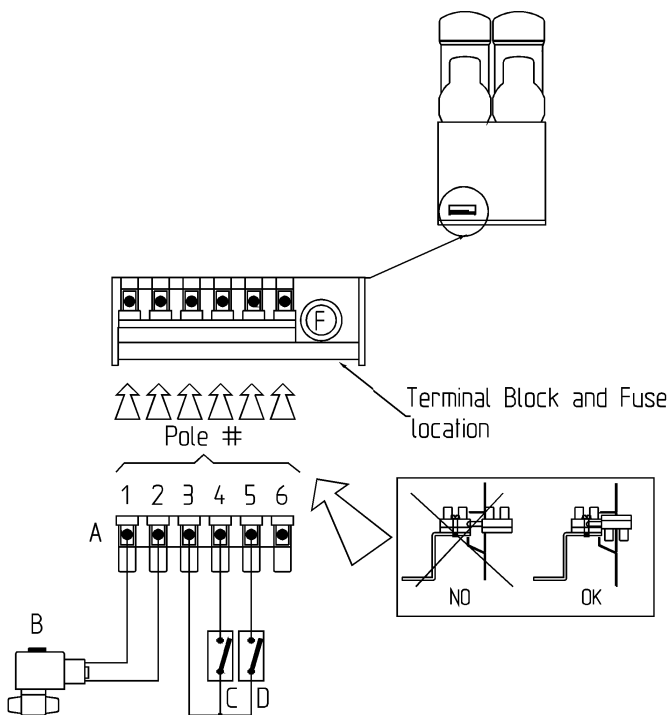

figure 1
- 2 - On the lower rear panel of the machine a 6-pole terminal block is located. It is designed for connecting some accessories such as a Safety Water Line Solenoid Valve and one Sold-out Switch each bowl (see figure 1).
- 3 - The Safety Water Line Solenoid Valve is intended to cut off the main water line (if present in the remote fill system) whenever the Autofill Device is not refilling. The Sold-out Switch (one for each bowl) disables the Autofill Device and activates acoustic and visual alarms whenever the incoming beverage is sold out. The Safety Water Line Solenoid Valve, if present, must be connected to the unit using #1 and #2 poles of the terminal block (see figure 1).
If the remote fill system is equipped with Sold-out switches connect their wires to #3 and #4 poles (for one bowl unit), to #3, #4 and #5 poles (for two bowls unit) and to #3, #4, #5 and #6 poles (for three bowls unit) as per figure 1 diagram.
A sold-out warning light along with a buzzer (visual and acoustic sold-out alarms) are located respectively on and inside the rear cover. They can run only if an applicable Sold-out switch is connected to the terminal block (see figure 1).